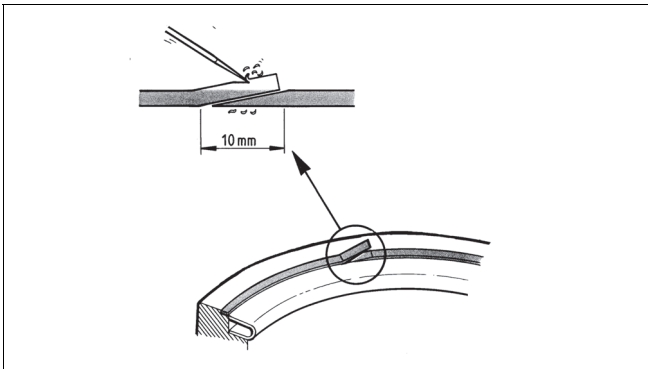

Fig. 14 Mounting the body seal
- Mount a new, self-adhesive body seal (19) into the body. The surface must be clean and free of grease. Handle the ends of the seal according to Fig. 14.
- Centre the seat ring (4) carefully into its groove and turn the disc to maintain light contact with the seat.
- Mount the clamp ring and tighten the screws (27) lightly.
- Tighten the screws (27) evenly. An unevenly tightened flange